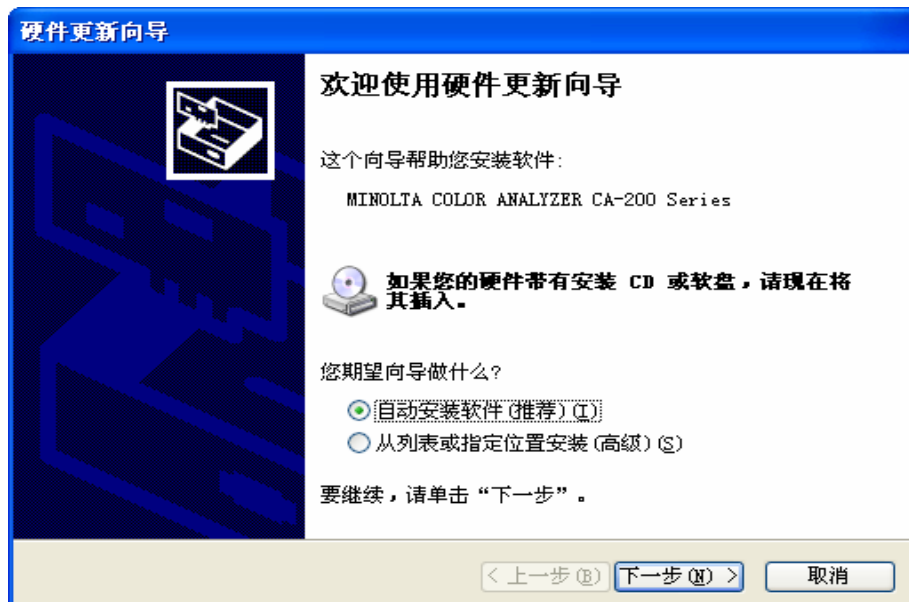

Fig.3
4.4.1 Block diagram as Fig. 3: